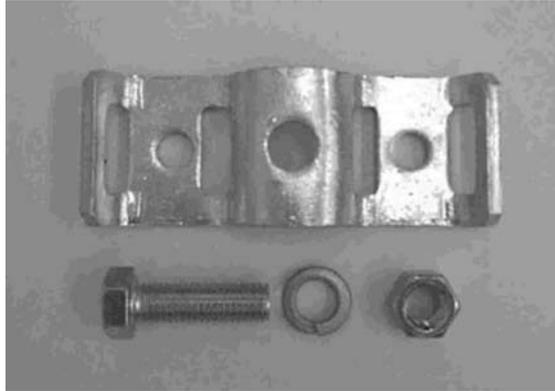

Figure 14 – FIBERLIGN Limited Tension Banding Bracket
14.1 Limited Tension Banding Brackets (Figure 14) are used to attach FIBERLIGN Downlead Cushions and FIBERLIGN Dielectric Supports to steel or concrete poles.